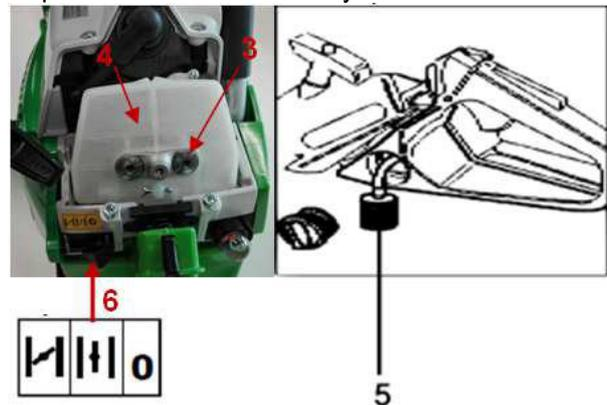

Figure 7
If you remove the cover (2), you have access to the air filter (figure 7).
To replace the carburettor filter (pos. 5 - figure 7), empty the tank and remove the filter (5) using a hook or long-nosed pliers.